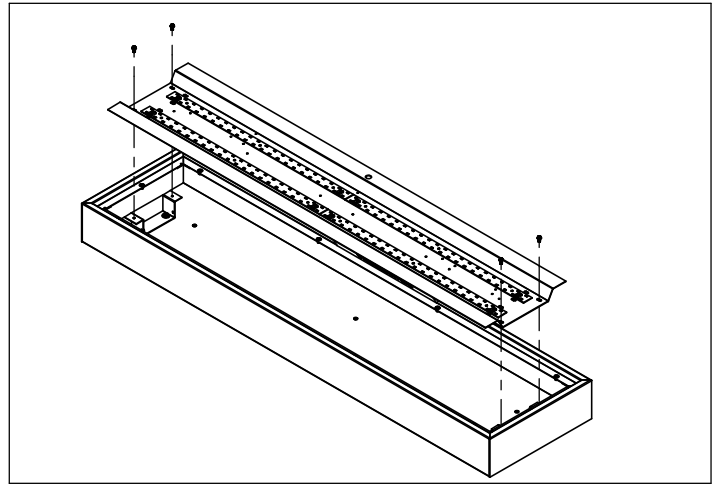

Figure 2
2. Remove screws from LED gear tray and remove from fixture. Remove K.O. that best suits installation and make all necessary electrical connections (Fig. 2)